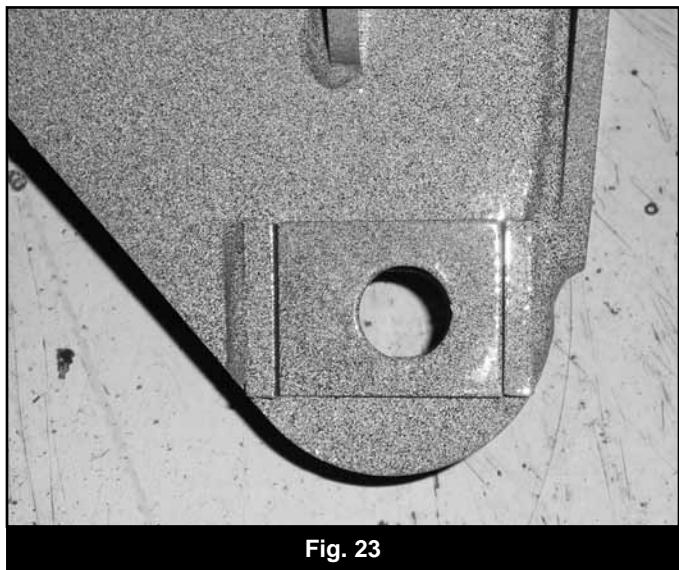

Fig. 23
56. Attach the track bar to the new bracket with the OE hardware. Turn the steering wheels to aid in aligning the track bar in the bracket. Install the provided cam washers between the alignment tabs on the bracket. Position the cam washers so that the hole is closer to the driver's side (Fig 23) for 4" kits. The hole should be closer to the passenger's side for 6" kits. Torque hardware to 406 ft-lbs.